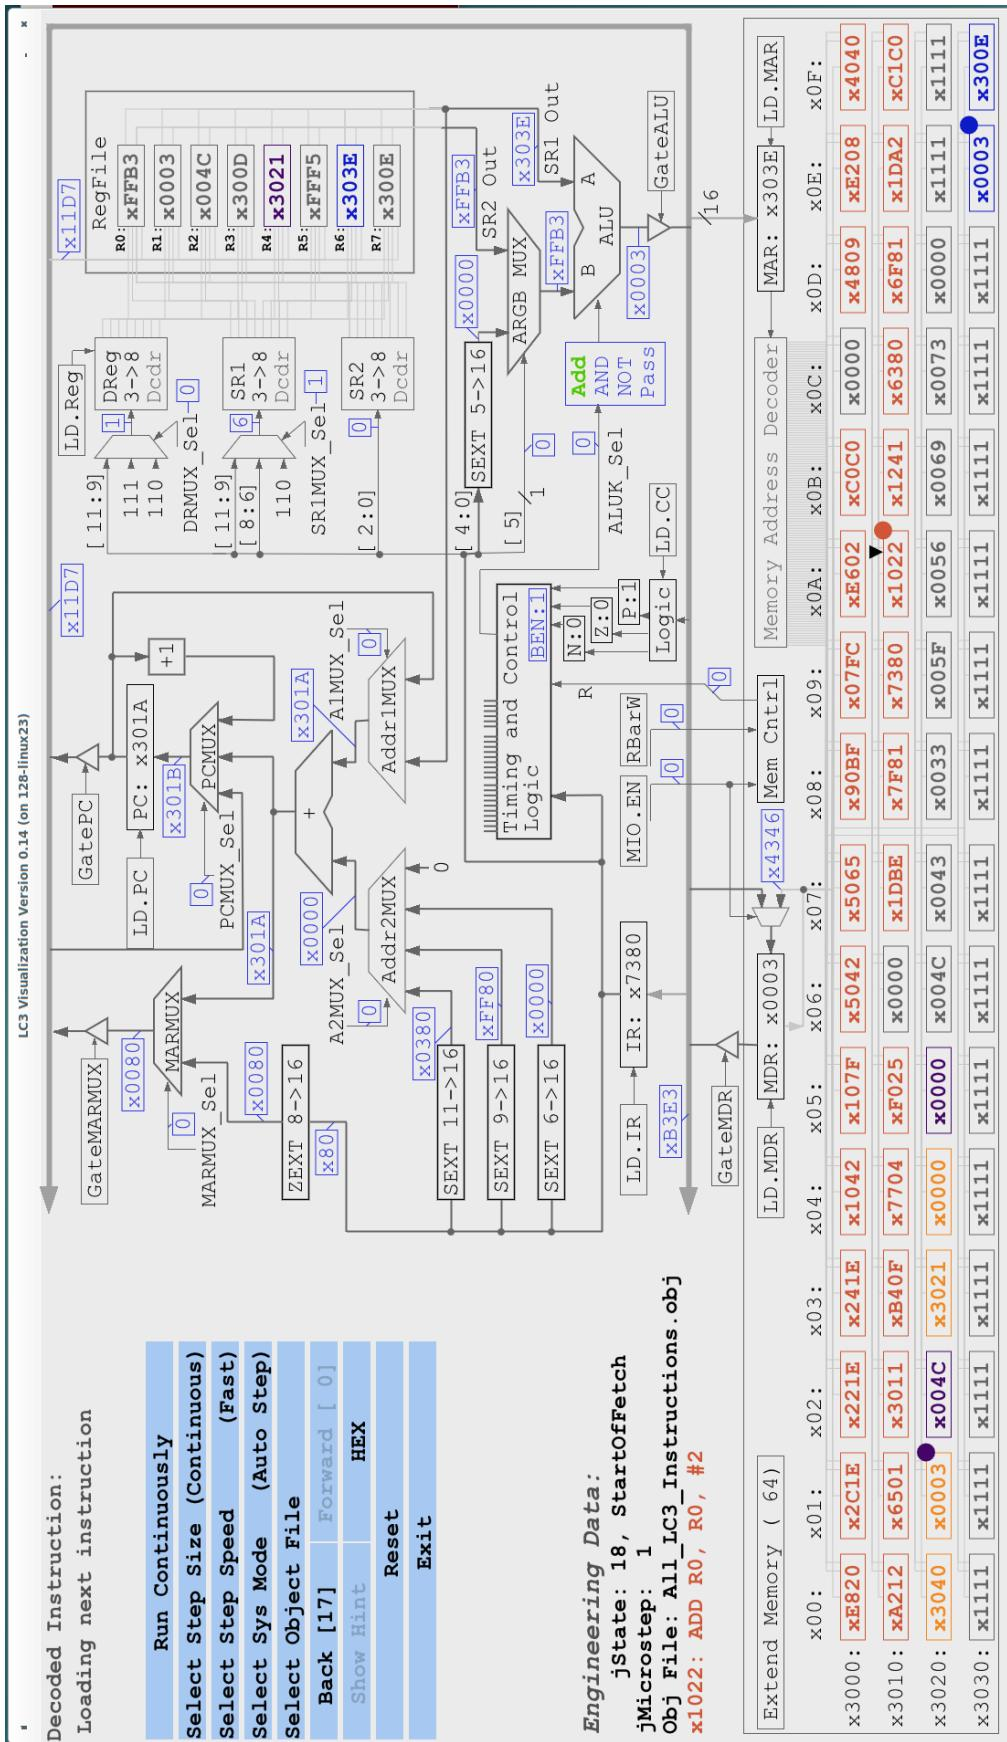

Figure 8: LC3\_Visualization at the start of fetch at address x301A.
13. Click “Run Continuously”, and run up to the breakpoint. The LC3\_Visualization will appear as seen in figure 8.